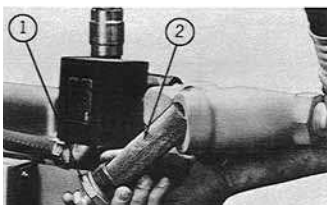

Figure 5
- B. Strainer screen may be plugged with foreign material. Clean strainer screen in diesel fuel (Figure 5), page 20.